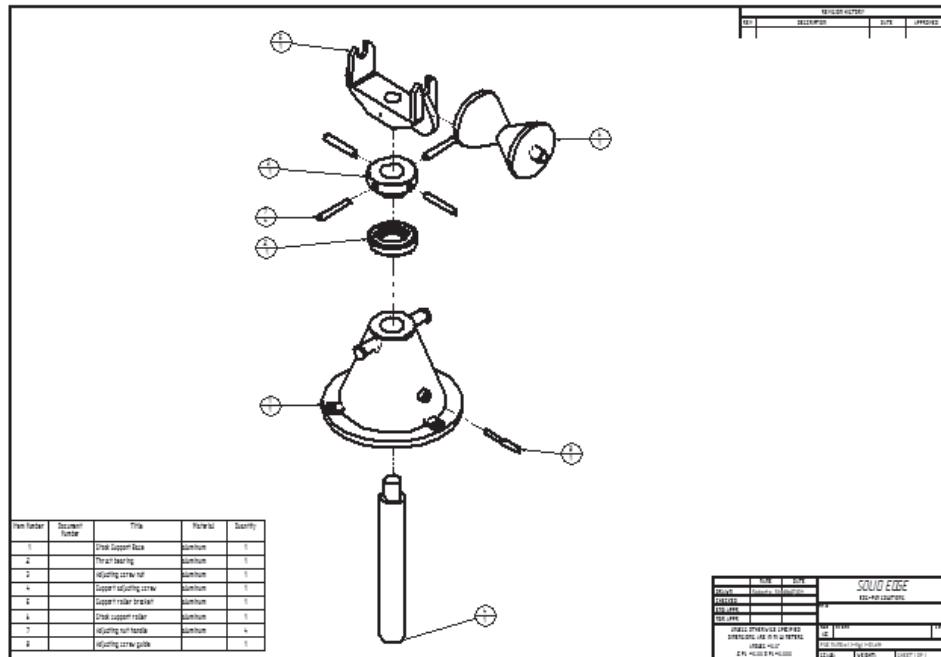

Figure 11-27 Exploded view of the assembly with BOM and balloons
5. Choose the **Finish** button to place the parts list and balloons, as shown in Figure 11-27.